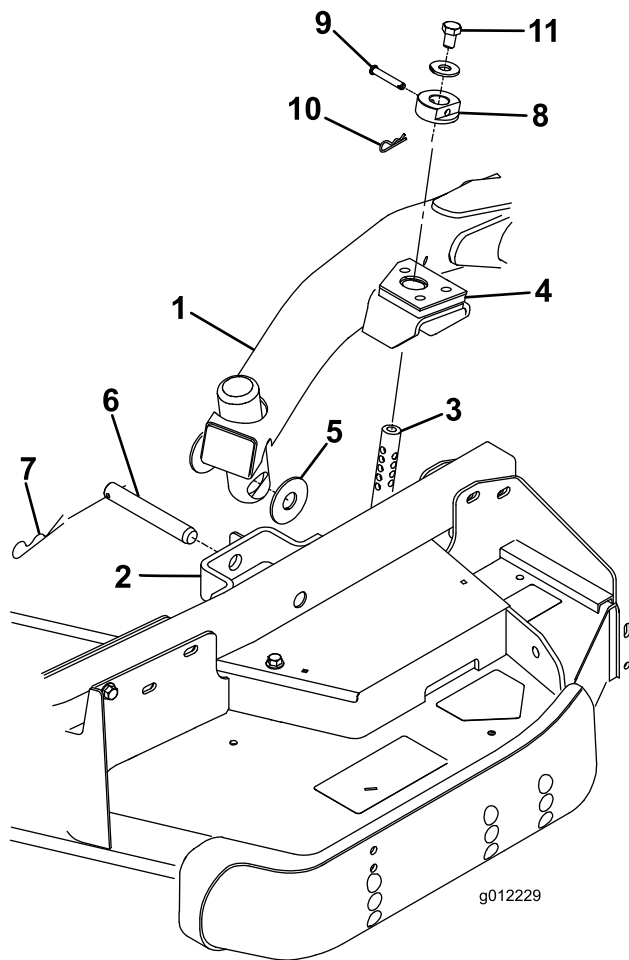

Figure 4
2. Move the lift lever to the FLOAT position. Push a lift arm down until the holes in the lift arm line up with the holes in the castor arm bracket and the height of cut rod can be inserted into the lift arm pads (Figure 4).
3. Secure the lift arm to the castor arm with 2 thrust washers, a clevis pin, and a large hairpin cotter. Position the thrust washers between the lift arm and the castor arm bracket (Figure 4). Insert end of cotter pin into the slot in the castor arm tab to retain cotter pin.
7. Install the height of cut collars onto the height of cut rods and secure with the clevis pins and small hairpin cotters (Figure 4). Head of clevis pin to be positioned toward the front of the cutting unit.
8. Install a bolt (1/2 x 3/4 inch) and a washer to the top of each height of cut rod (Figure 4).